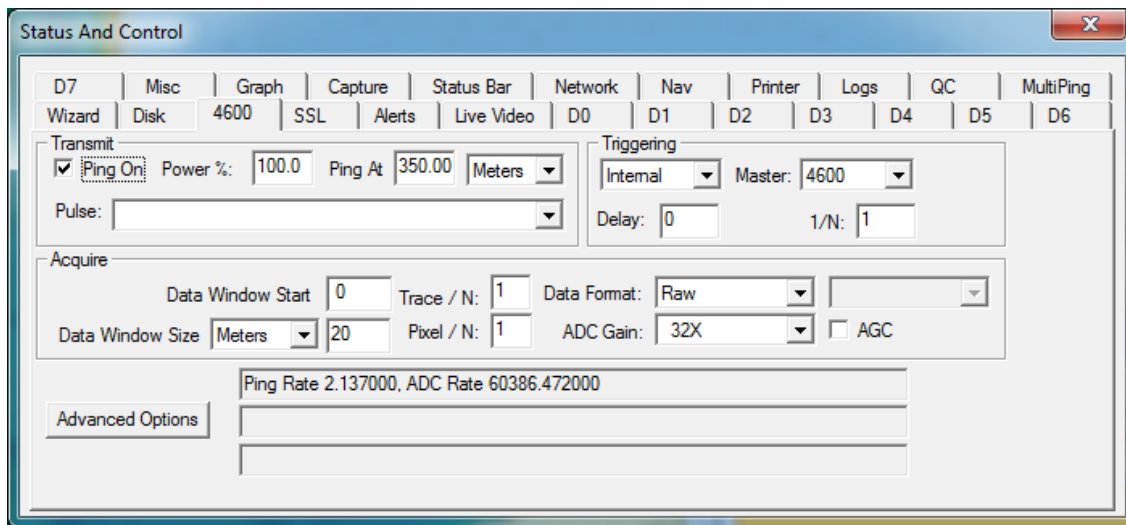

Fig. 15 - JSTAR Status and Control Window
6. Click on the  icon to open up the **Status and Control Window** (Fig. 15).